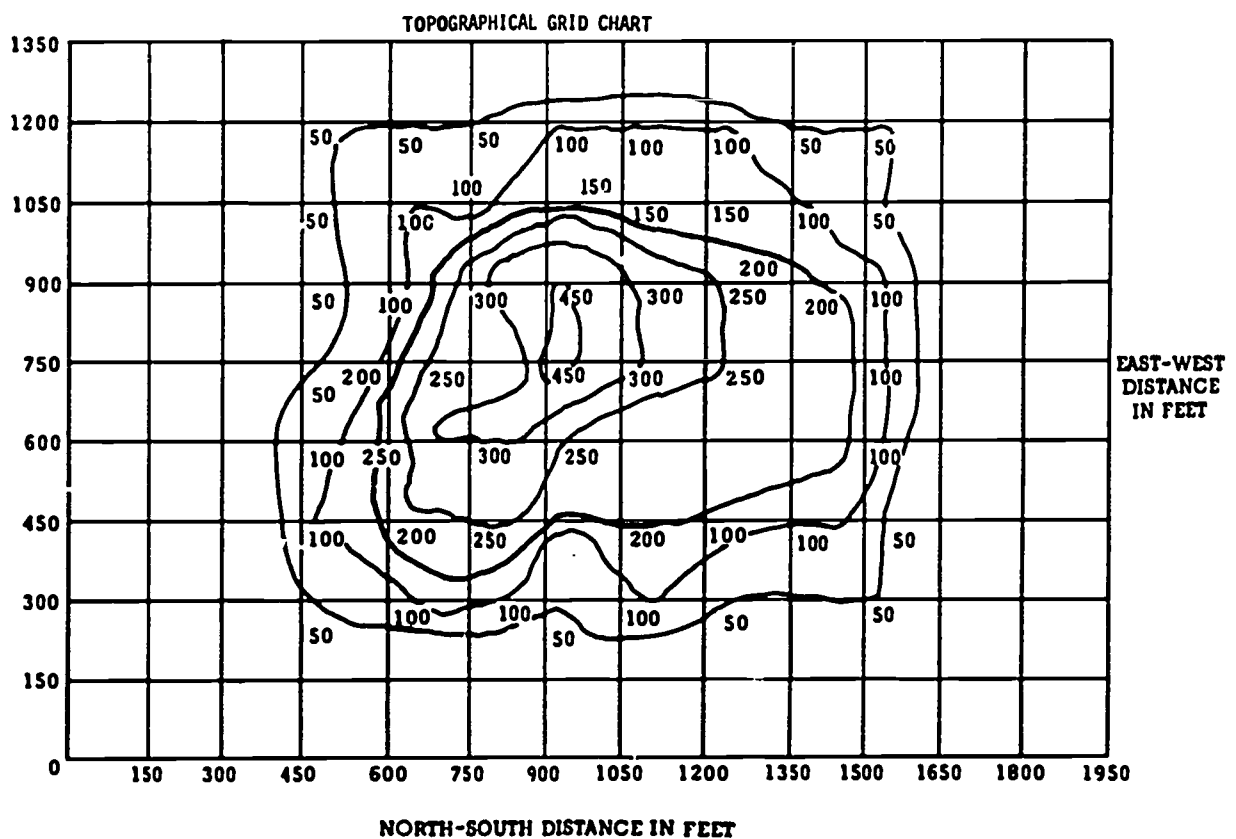

Fig. 13-4. Topographical Map
6. Explain that each elevation measurement is recorded on a grid chart. After all measurements are recorded, contour lines are drawn connecting every point which is at the same elevation. This can be explained by using Transparency 13-3, Contour Lines, to which an overlay of recorded elevation data has been added. This transparency is similar to the topographic map grid that the student will complete in the laboratory activity. Six contour lines have been drawn on the transparency. The instructor should draw a new elevation with a felt pen at 905' to show the students how they should do it in their Laboratory Manuals. (See Fig. 13-4.)